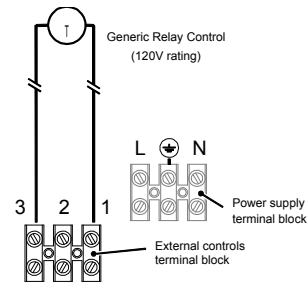

Figure 12.9
- Connect the dry contact switch of the relay panel to the control terminal block (Fig 12.9).
- Connect the dry contact switch to terminals 1 and 3 shown in Fig. 12.9.